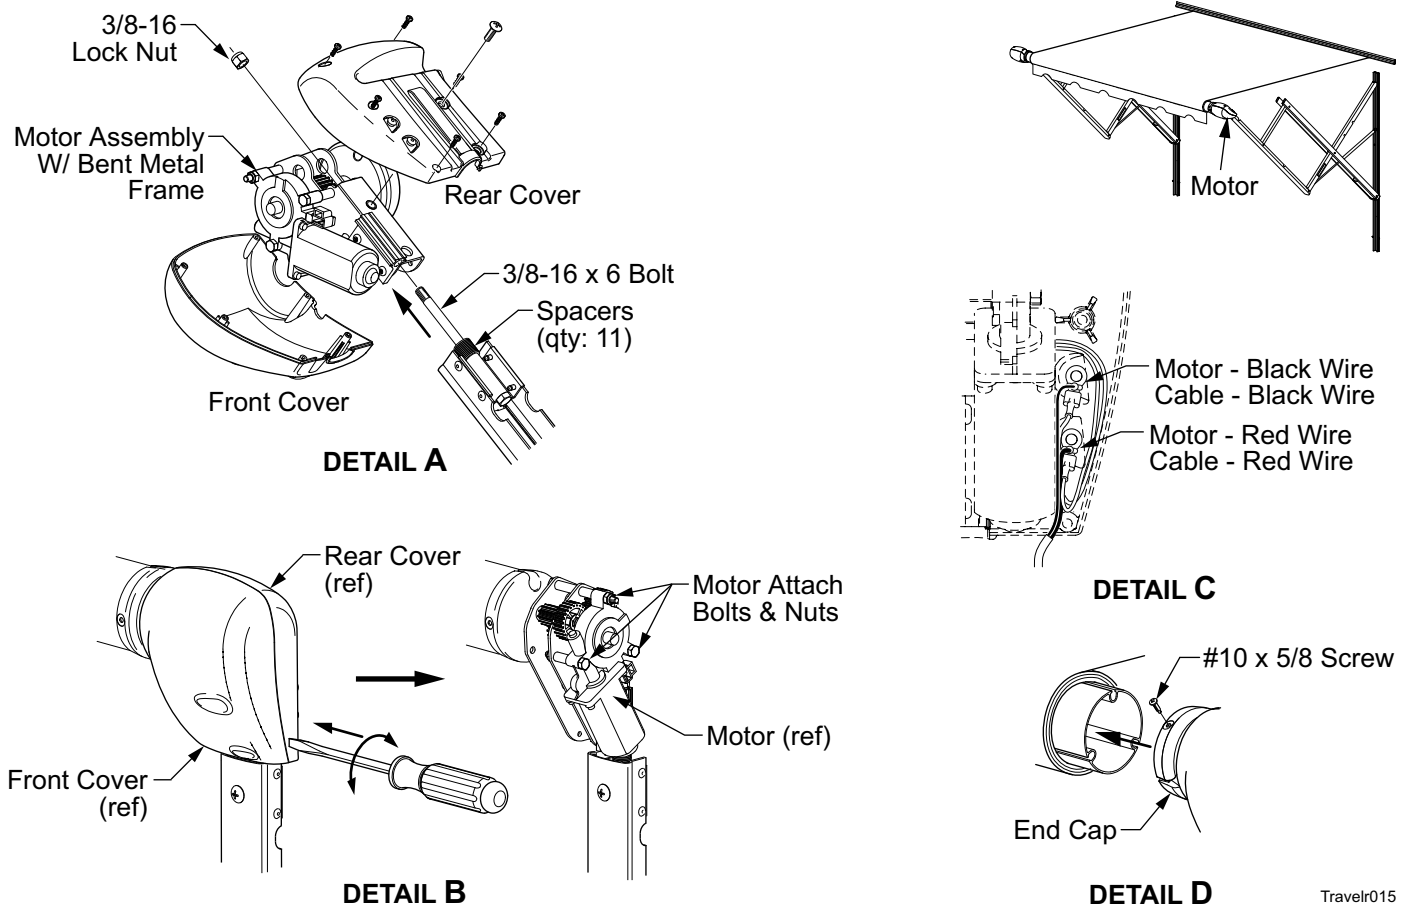

Figure 2. Motor Replacement – Series I.
2.3 (refer to Figure 2, Detail B) Firmly hold the motor and idler arms up while removing the three (3) motor attach bolts and nuts.